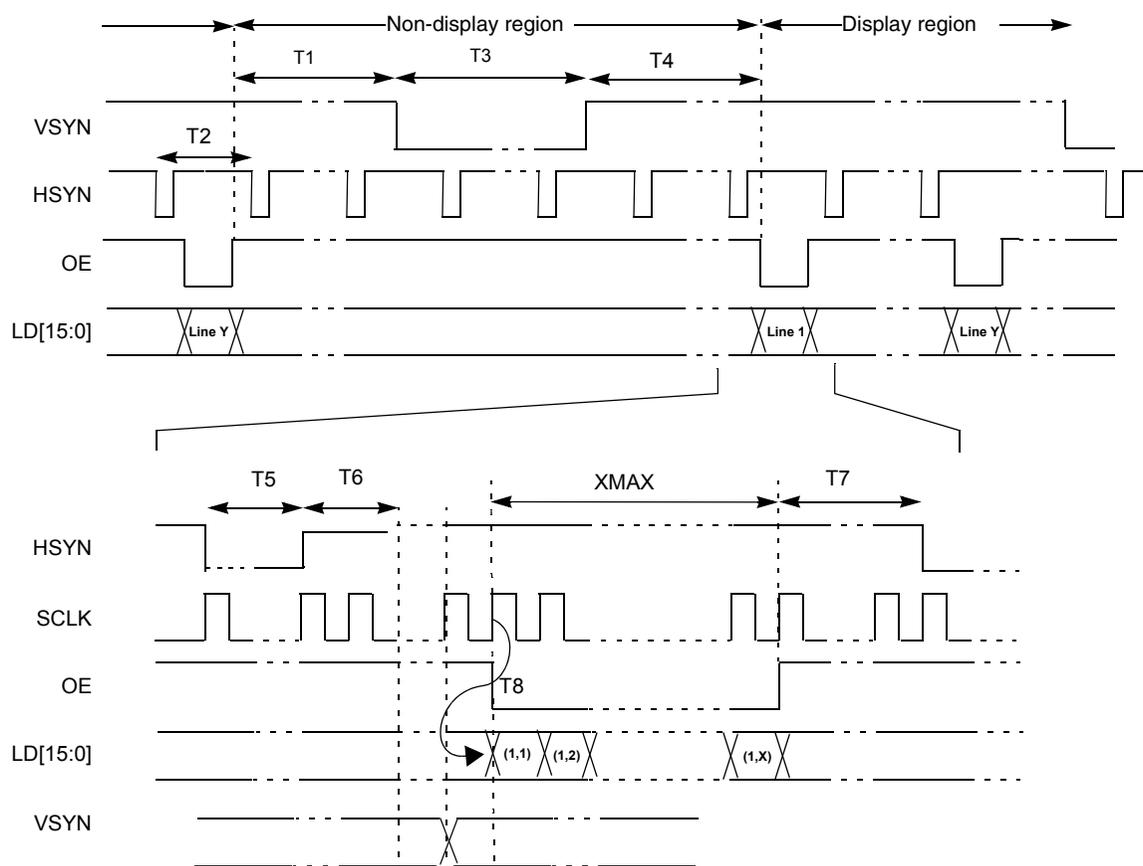

Figure 44. 4/8/16 Bit/Pixel TFT Color Mode Panel Timing Diagram
- VSYN, HSYN and OE can be programmed as active high or active low. In Figure 44, all 3 signals are active low.
- SCLK can be programmed to be deactivated during the VSYN pulse or the OE deasserted period. In Figure 44, SCLK is always active.